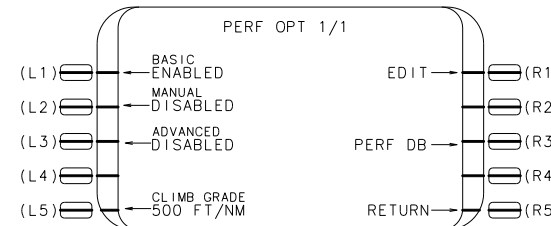

FIGURE 6
7. THE PERF OPT PAGE WILL APPEAR (REF FIGURE 6). PRESS EDIT LSK. LSK (R1) WILL CHANGE TO STORE.
10. THE PERF OPT PAGE WILL APPEAR (REF FIGURE 6). PRESS PERF DB LSK.